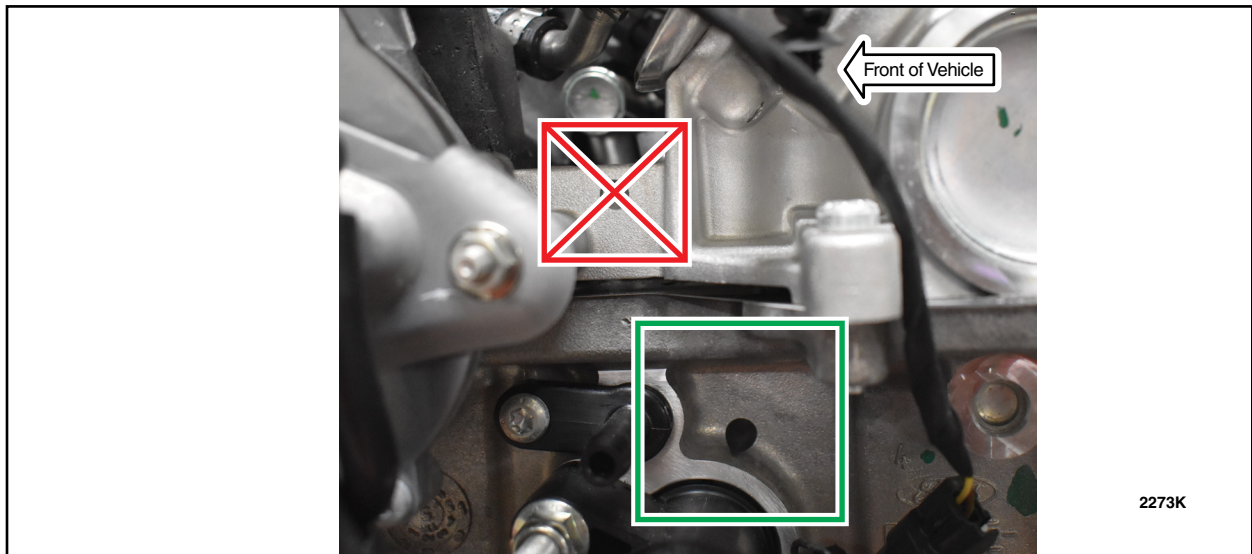

FIGURE 2
5. Clean area with Motorcraft Brake Cleaner. See Figure 2.